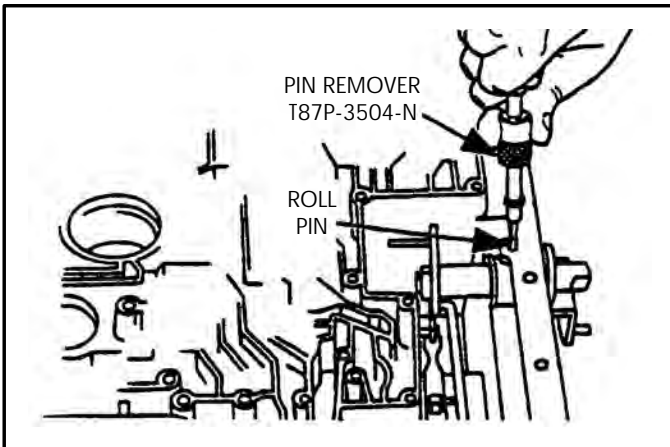

Figure 82
2. Remove the shift lever retaining roll pin from the case, using pin removal tool T87P-3504-N, as shown in Figure 82.